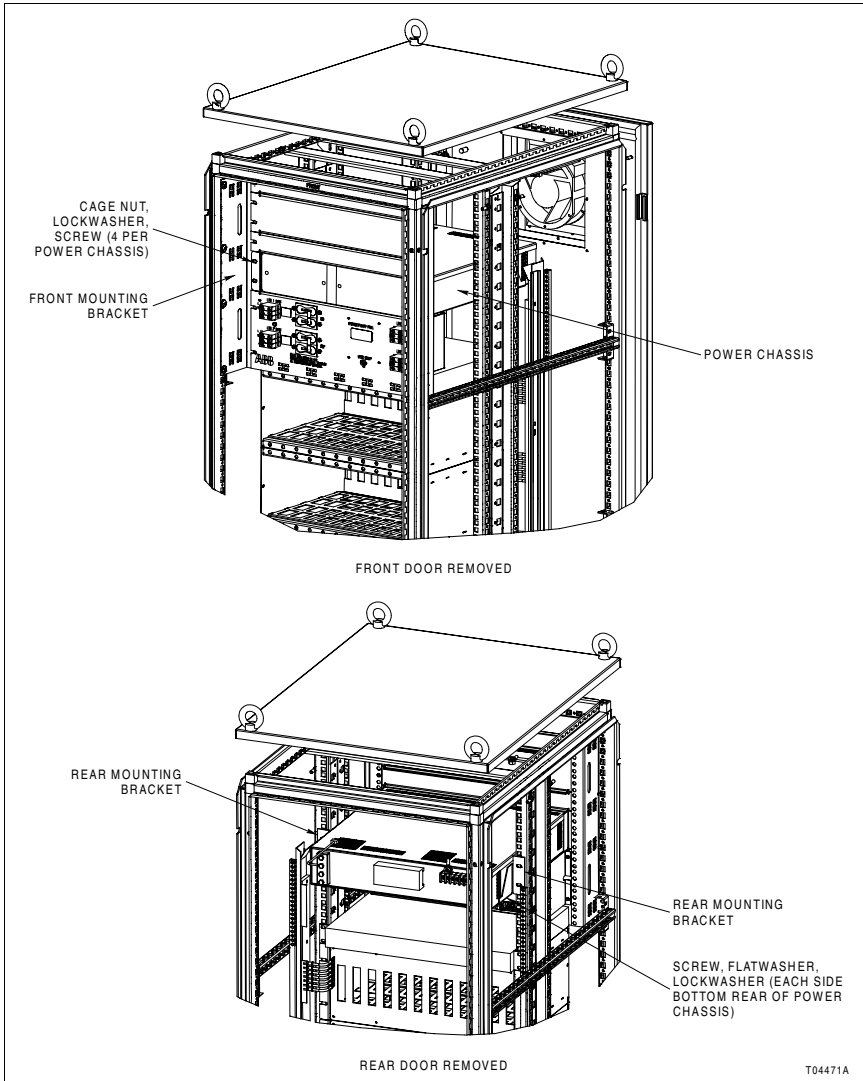

Figure PR12-1. Power Chassis Removal
- 4. Use the Phillips screwdriver to remove the pan head Phillips screws, M4 lockwashers, and M4 flat washers that secure the power chassis to the rear mounting brackets (Fig. PR12-1).
- 5. While supporting the front of the power chassis, use the bladed screwdriver to remove the pan head slotted screws and M8 lockwashers that secure the power chassis to the front mounting brackets (Fig. PR12-1).